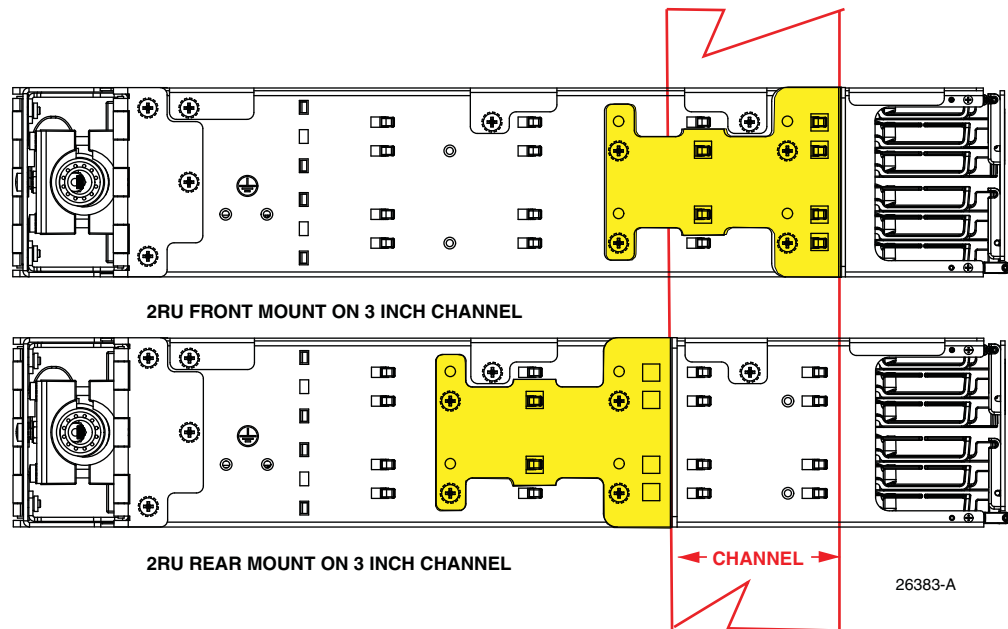

Figure 13. 2RU Mounting Bracket Positions (Front and Rear on 3-Inch Channel)
- Figure 13 for 2RU mounting on a 3-inch channel;